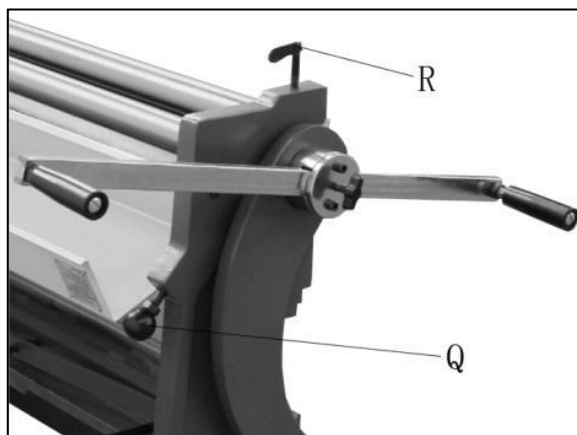

Figure 11
2. Back off idle roll completely by rotating idle roll screws (Q, Figure 11) counter-clockwise.
3. Loosen bolt (R, Figure 11) to increase space between upper and lower press rolls.
4. Insert material between upper and lower rolls, and tighten bolt (R, Figure 11) to lower the upper roll, until material fits snugly. The upper roll must have sufficient pressure on work piece to feed properly.
5. Rotate both idle roll screws (Q, Figure 11) to adjust idle roll's proximity to the two main rollers. Raise both ends an equal amount.